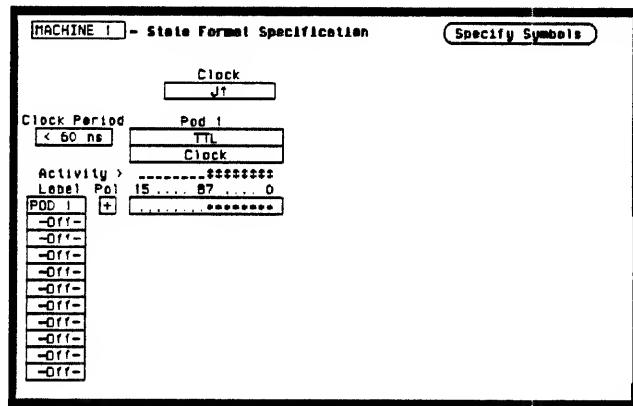

**Figure 3-11. Waveform for Data Test 2**
2. Adjust pulse generator for the output in figure 3-11. Pulse generator settings are different for HP 1650B and HP 1651B.